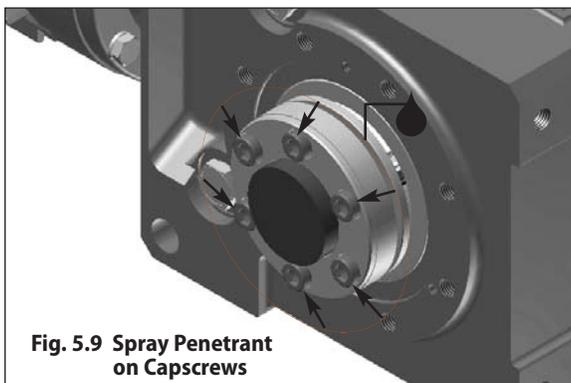

Fig. 5.9 Spray Penetrant on Capscrews
Step 3 – Spray a liquid penetrant onto each of the Taper-Grip® Bushing capscrews. Allow time for the penetrant to settle into the threads of the capscrews. (see Fig 5.9).